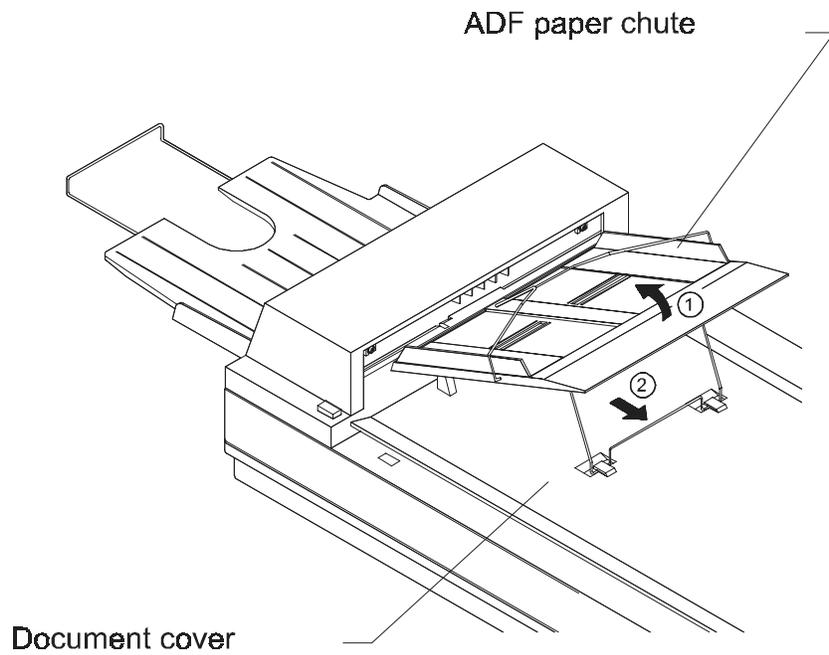

Figure 2-4 Setting the ADF Paper Chute
2.3 ADF PAPER CHUTE (FIGURE 2-4)	2-5
2.3 ADF Paper Chute (Figure 2-4)